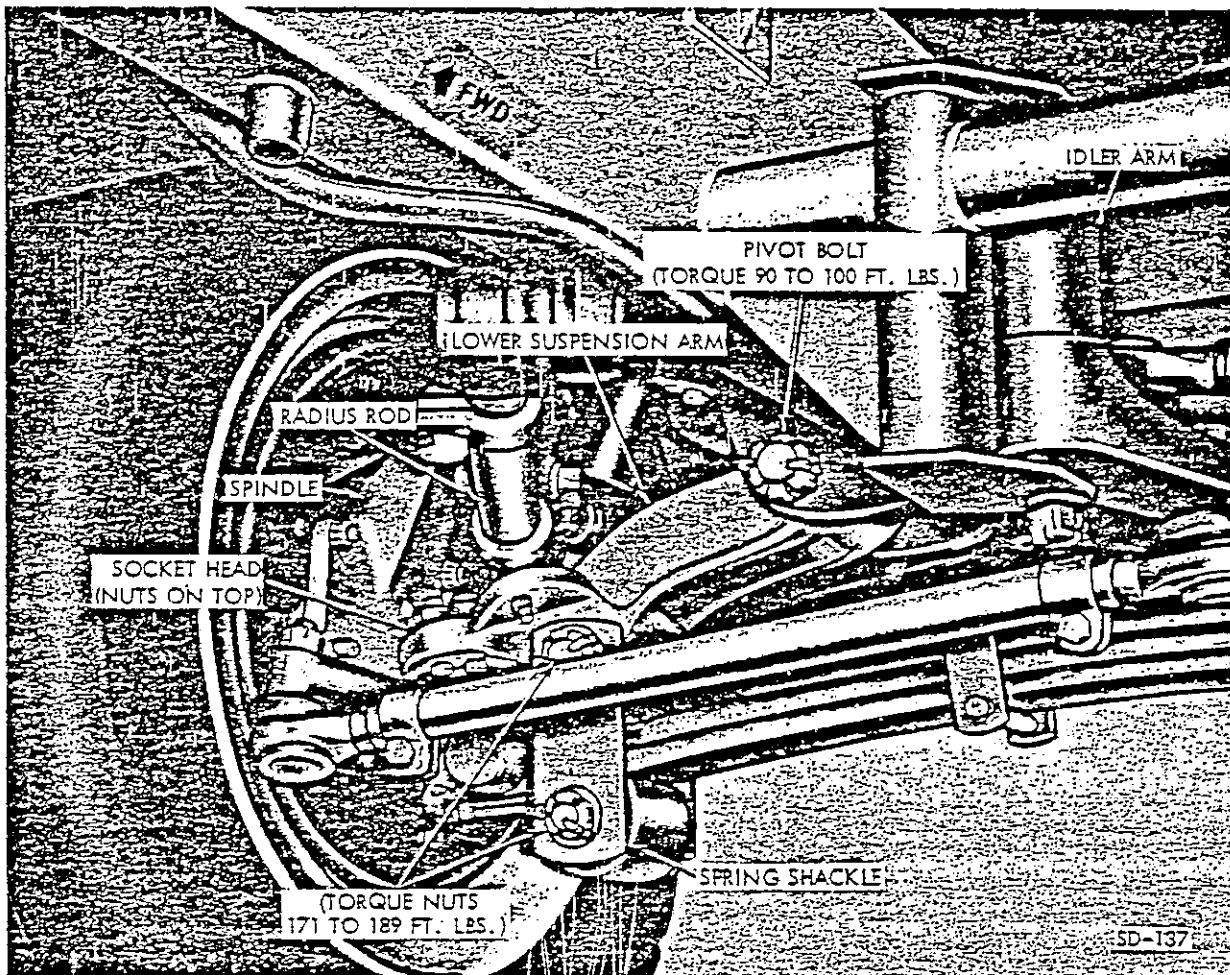

Figure 5-3. Lower Suspension Arm Replacement
(1) Jack coach as outlined in the procedures in paragraph 5-3 b, steps (1) and (2), then remove wheel to gain access to the suspension arm; refer to Group 8.
(2) Remove shock absorber; refer to paragraph 5-3 j.
(4) Remove four nuts and bolts attaching spindle socket to the lower suspension arm.
(5) Remove two nuts and bolts attaching radius rod to lower suspension arm; detach rod.
(6) Remove cotter pin and nut from pivot bolt attaching lower suspension arm to frame bracket; remove bolt then remove lower suspension arm.
g. Lower Suspension Arm Installation (fig. 5-3).
(1) With pivot bushing (bonded center joint) inserted in pivot hole on end of the suspension arm, install in frame mount bracket and attach with pivot bolt (head-end forward) and nut; torque nut to 90 to 100 foot pounds, then install cotter pin.